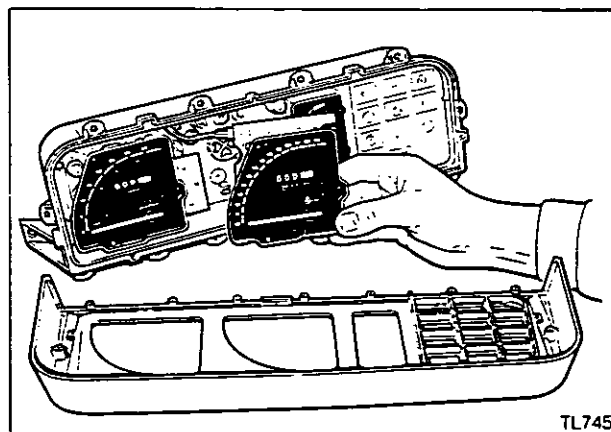

Figure 3
2. Remove the tachometer through the front (Fig. 3).